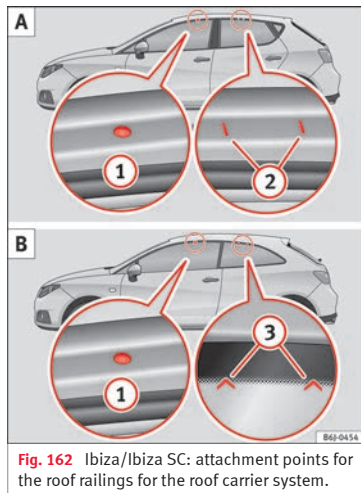

Fig. 162 Ibiza/Ibiza SC: attachment points for the roof railings for the roof carrier system.
The front and rear attachment points ① and ② are only visible when the doors are open »» Fig. 162 A.
ment points ③ are marked on the top edge of the side window with arrow heads »» Fig. 162 B.